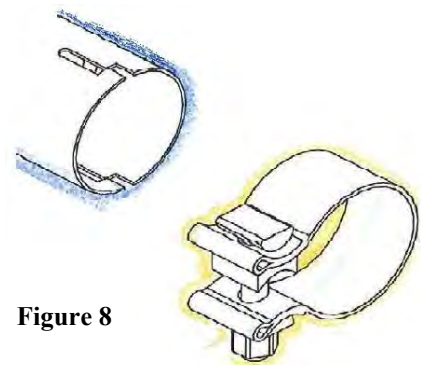

Figure 8
7. Check your exhaust system for proper clearance under the vehicle and also for tip alignment. Starting at front flanges and moving to rear of vehicle, tighten flange hardware bolts. Orient position of bolt (on supplied clamps) between (not over) pipe notches and tighten to 35 ft. lbs. torque. (See Fig.8)